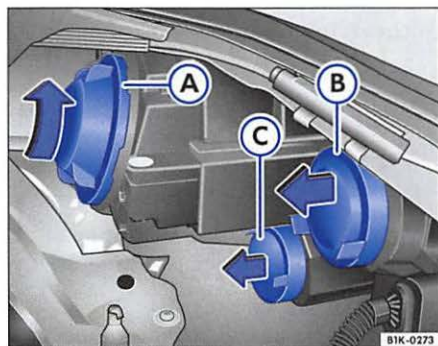

Fig. 38 Cover ① for low beam, cover ② for high beam and side light, cover ③ for the turn signal
- Pull the rubber cover ⇒ fig. 38 ③ off.